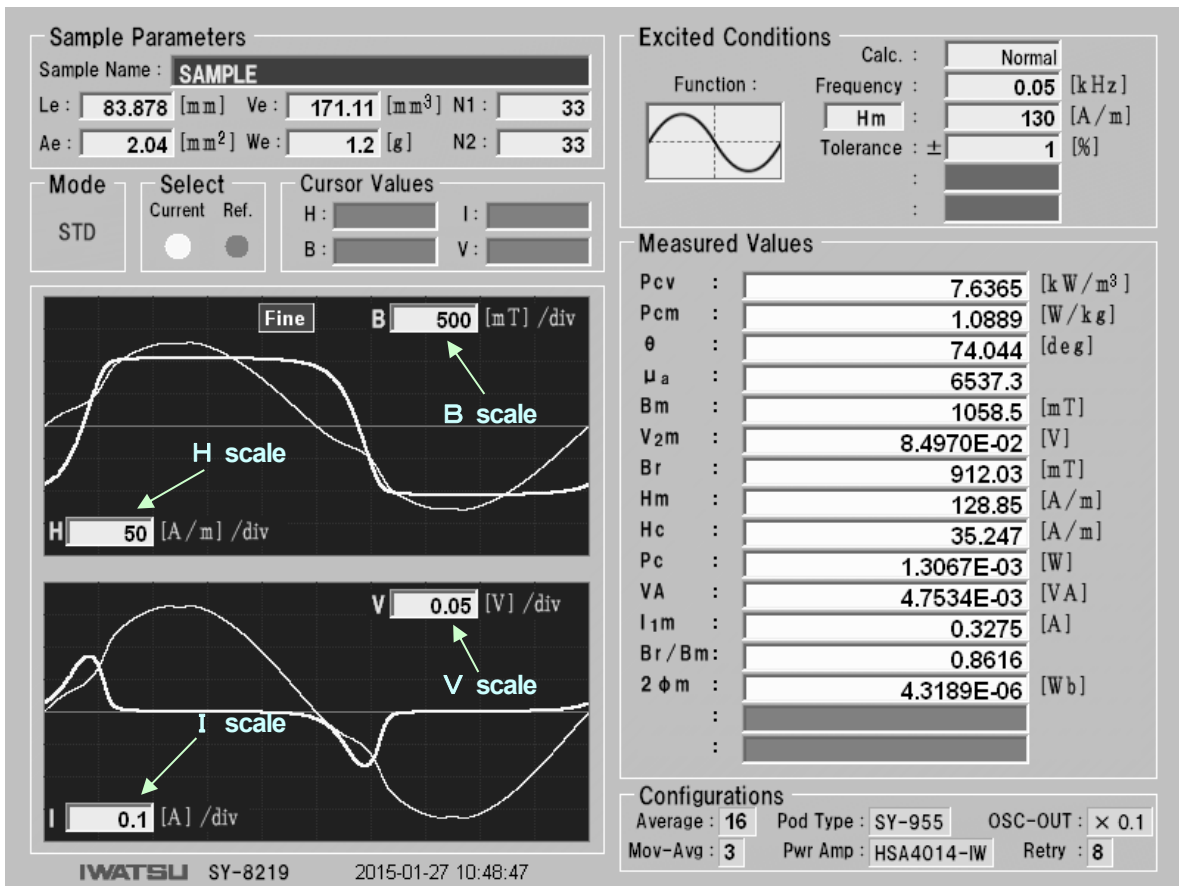

Fig.6-12 Time axis graph
① Press  to display the time axis graph (see Fig.6-12).
② When B scale is to be scaled, move the edition cursor to the B scale List Box; when H scale is to be scaled, to the H scale List Box; when V scale is to be scaled, to the V scale List Box; or when I scale is to be scaled, to the I scale List Box.